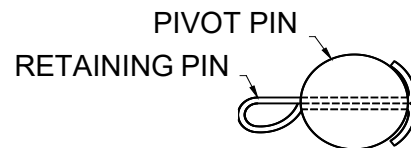

Figure 5
3. Make sure all pivot pins are in position and that all retaining pins are installed correctly (Figure 5).